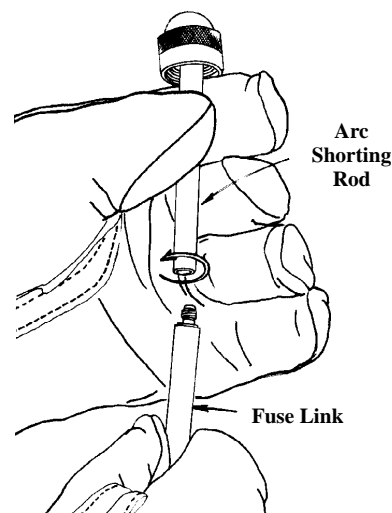

Figure 4
**NOTE:** Cutouts using an arc shortening rod require the use of removable buttonhead fuselinks. To attach the fuselink to the arc shortening rod, remove the screw-type buttonhead (and washer if equipped) from the fuselink. Screw the arc shortening rod (attached to cap) onto the fuselink and tighten firmly. (See Figure 4.) Follow same procedure as outlined in above paragraph.